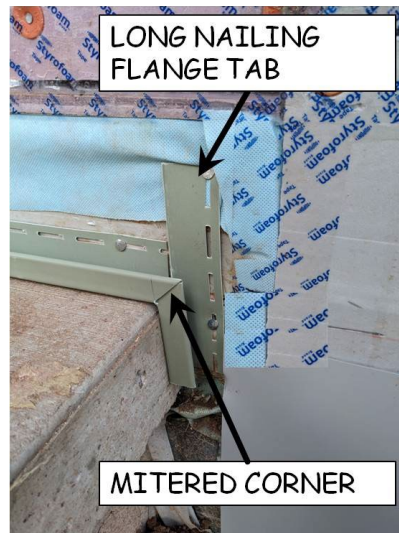

Figure 11-13. Porch Slab J-Channel.
12. J-channel is installed on top of the porch concrete where it meets the house wall (see Figure 11-13). A short piece will wrap down the edge of the slab, ending 1" below the bottom of the starter strip. To provide more stability to the short piece, cut the nailing flange 4-6" long on the upper end, and nail in place with 2½" siding nails.